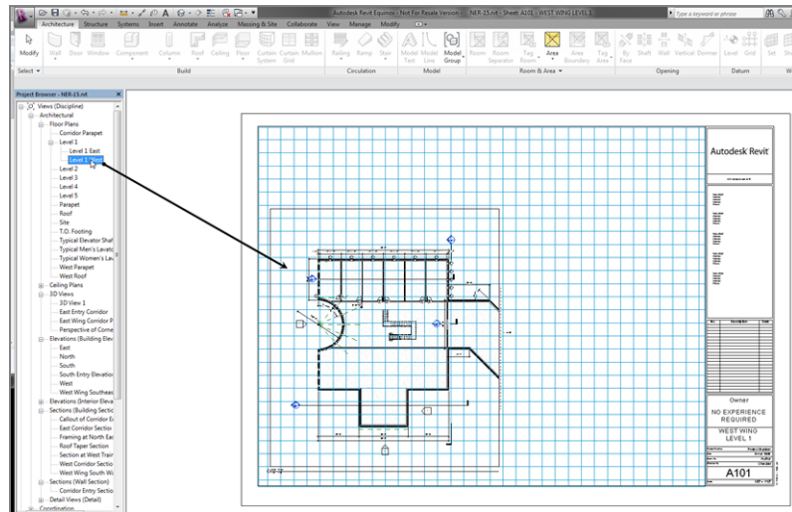

FIGURE 14.3: Dragging the view onto the sheet
5. In the Project Browser, find the dependent view called Level 1 West, as shown in Figure 14.3.
7. Drag the view onto the sheet (see Figure 14.3).